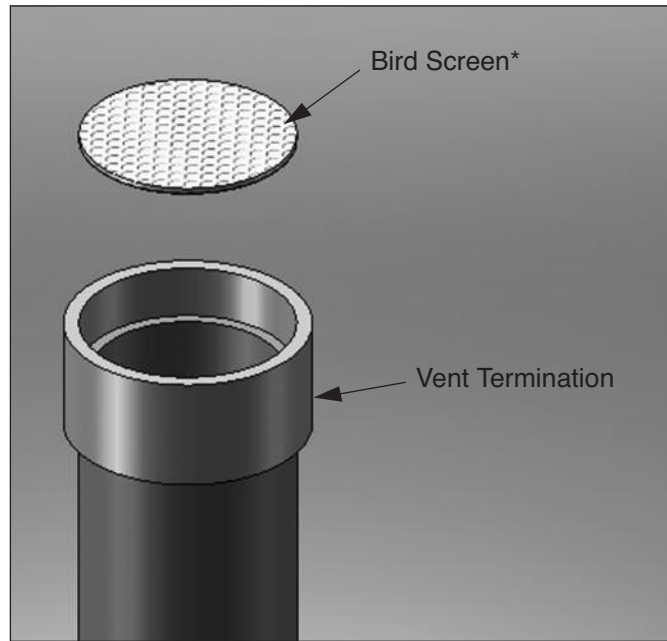

Fig. 4: Vertical Vent Bird Screen Installation
1. The vent and combustion air terminations must include a factory supplied "bird screen" installed as shown in Figs. 4, 5 & 6 on page 8.